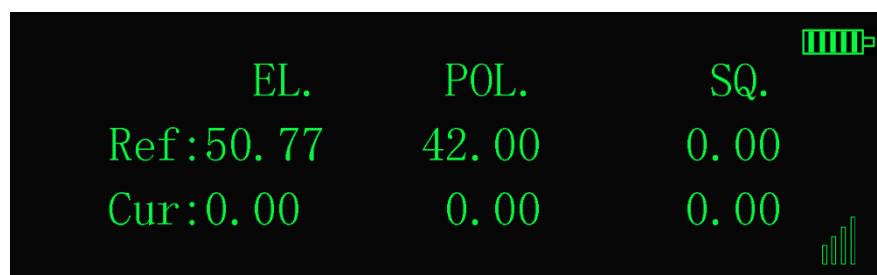

Figure 5-2-2-1 The Prompt of Alignment
1. According to the satellite direction, adjust the antenna elevation, polarization and azimuth to align the satellite. In the adjustment process, you can refer to the prompt information shown in Figure 5-2-2-1.